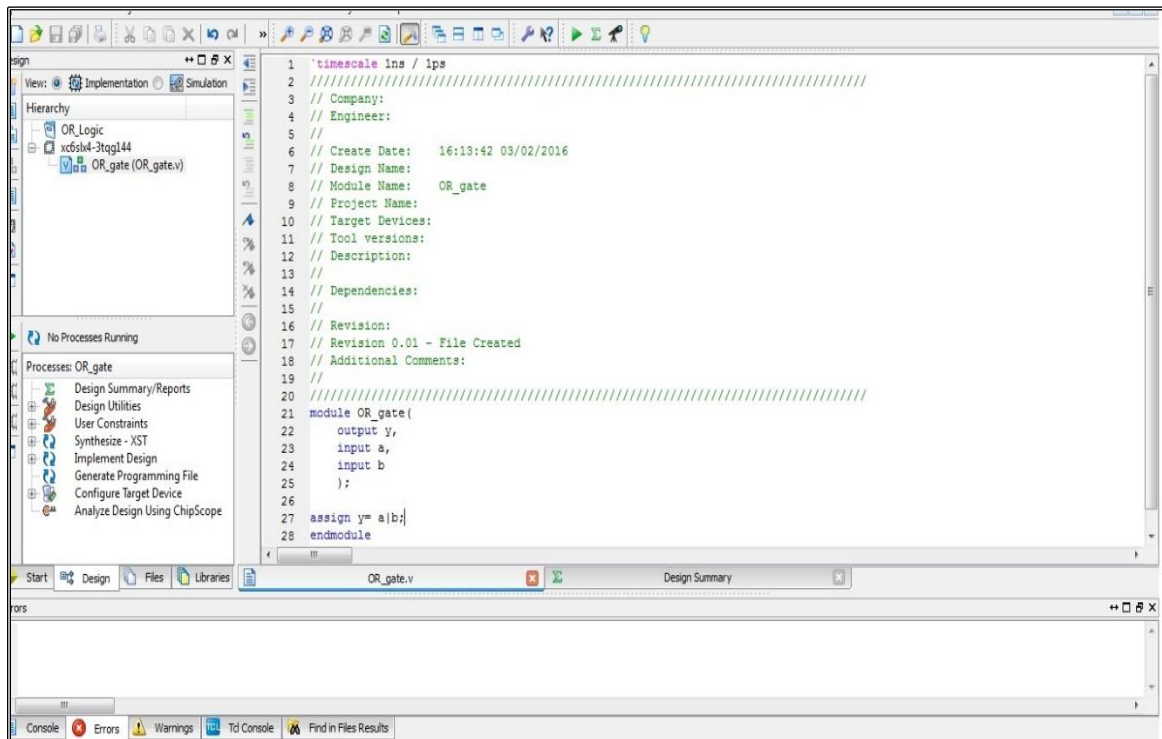

Fig 1.11: Source Tab with complete Verilog code
12. After entering the verilog code , save the file. The source file containing the Verilog code displays in the Workspace, and the complete “OR_gate” displays in the Source tab (Fig 1.11).